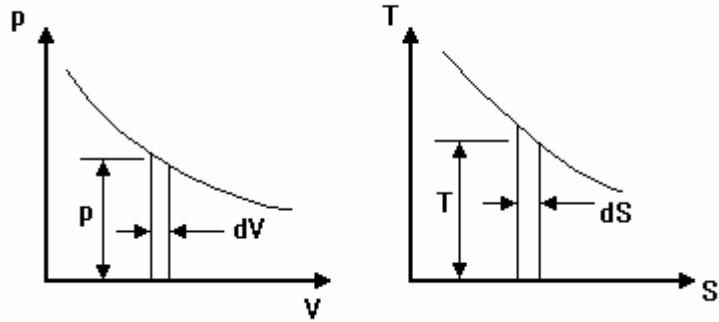

Fig.5
In thermodynamics there are two forms of energy transfer, work (W) and heat (Q). You should already be familiar with the theory of work laws in closed systems and know that the area under a pressure - volume diagram gives work transfer. By analogy there should be a property that can be plotted against temperature such that the area under the graph gives the heat transfer. This property is entropy and it is given the symbol S . This idea implies that entropy is a property that can be transported by a fluid. Consider a p - V and T - S graph for a reversible expansion (Fig. 5).